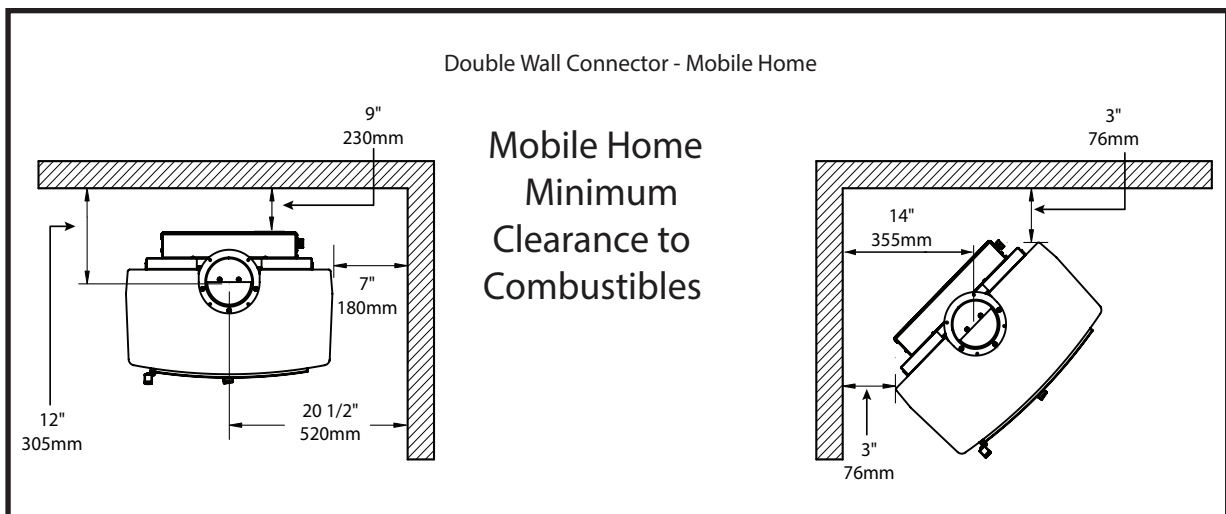

Figure 8: Mobile home clearances.
2. Clearances to combustible surfaces and materials using single-wall connector are shown in Figure 8. Clearances may be reduced with various heat insulating materials. Consult local fire codes and authorities for approval.
Clearances to combustible surfaces and materials are shown in Figure 8 below.
1. Position stove and floor protection with hole for combustion air in accordance with the clearances as stated on the label and in Figure 8.